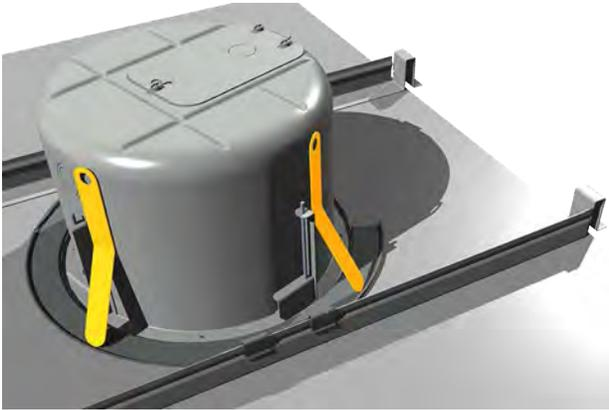

Figure 26. *Drop-Stop™* tabs (highlighted) snap out over C-Ring support
4. Slide the back can into the hole, aligning it so that its input terminal block OR its knockout strain relief locations are consistent with the wiring distribution you have mapped out. When you press the can fully into place, the four spring-loaded *Drop-Stop™* tabs will spread atop the C-ring, and you may hear them "snap" into position; you can now continue without having to hold the can in place. See Figure 26.
2. Slide the back can into the hole. When you press the can fully into place, the four *Drop-Stop* installation assist tabs will spread atop the C-ring, and you may hear them "snap" into position; you can now continue without having to hold the back can in place. The illustration in Figure 26 on page 24 shows how the *Drop-Stop* tabs work, and is equally applicable with C-Ring Support Plate or New Construction Bracket installations in drywall ceilings.